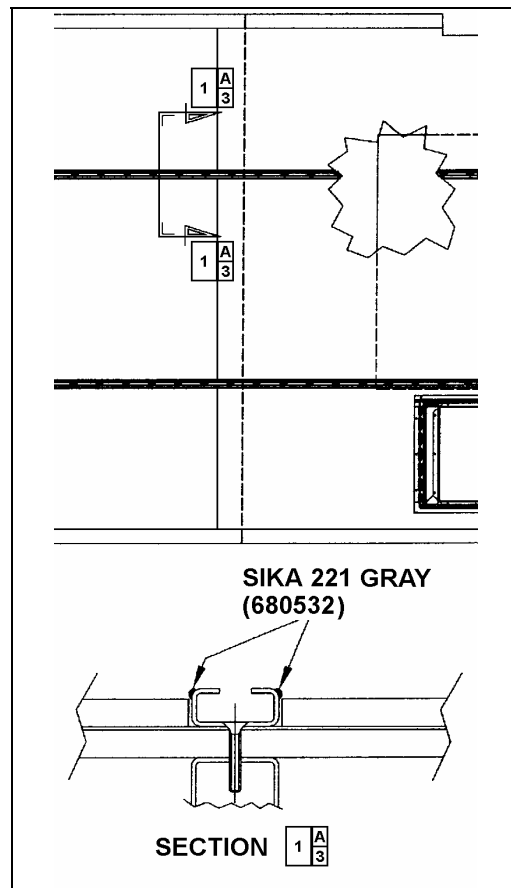

FIGURE 46: APPLICATION OF SIKA 221 GRAY
8. Apply Sikaflex 221 gray sealant (680532) alongside passenger seat fixing tracks (refer to figure 46).